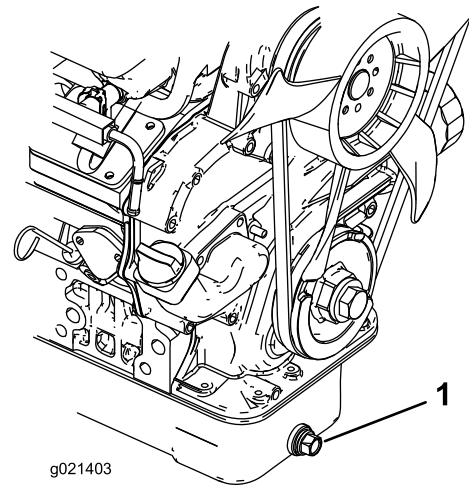

Figure 44
1. Remove the drain plug (Figure 44) and let oil flow into a drain pan. When the oil stops flowing, install the drain plug.